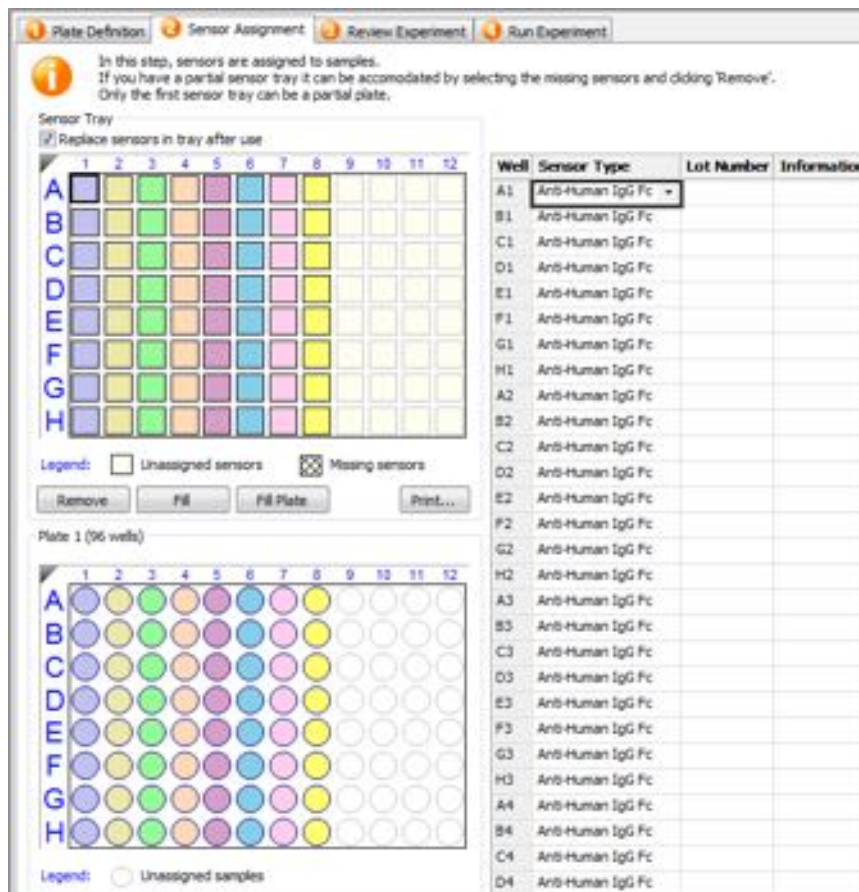

Figure 6-35: Changing Biosensor Types
- Select a cell in the **Sensor Type** table column, click the down arrow and select a biosensor type from the drop-down list (see Figure 6-35).